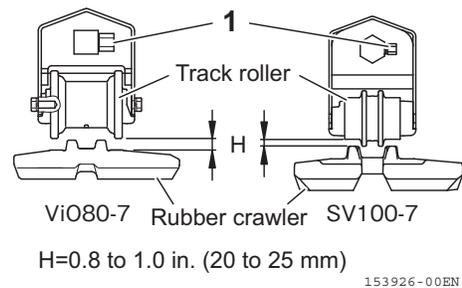

Fig. 8-15
- **Grease is under high pressure. If the nipple valve (Fig. 8-15, 1) is opened suddenly, grease could be ejected or the valve could blow, which could cause bodily injury.**
- **Do not open the nipple valve (Fig. 8-15, 1) more than one turn.**
2. Raise the machine with the implement and the safety blocks. Slowly loosen the nipple valve (**Fig. 8-15, 1**) and discharge the grease to adjust the rubber crawler tension and to achieve clearance (H) that is within the following range: 0.8 to 1.0 in. (20 to 25 mm).
4. Tighten the nipple valve (**Fig. 8-15, 1**).